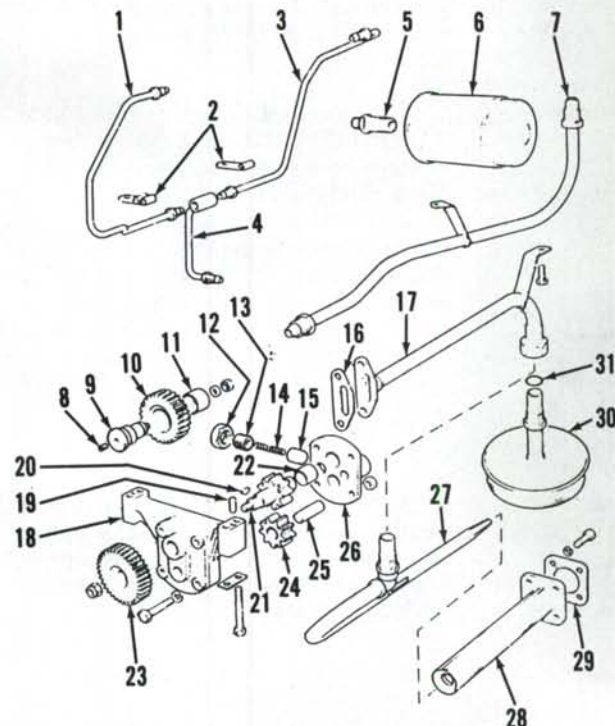

Fig. 100—Exploded view of oil pump used on six-cylinder engine showing component parts and their relative positions.
To remove oil pump, it is necessary to first remove engine assembly as outlined in paragraph 76. Remove suction filter (28 or 30—Fig. 100), suction pipe and pressure pipe (7). Remove pump retaining bolts and withdraw oil pump.
124. OVERHAUL. Disassembly of pump is obvious after examination of unit and reference to Fig. 100.